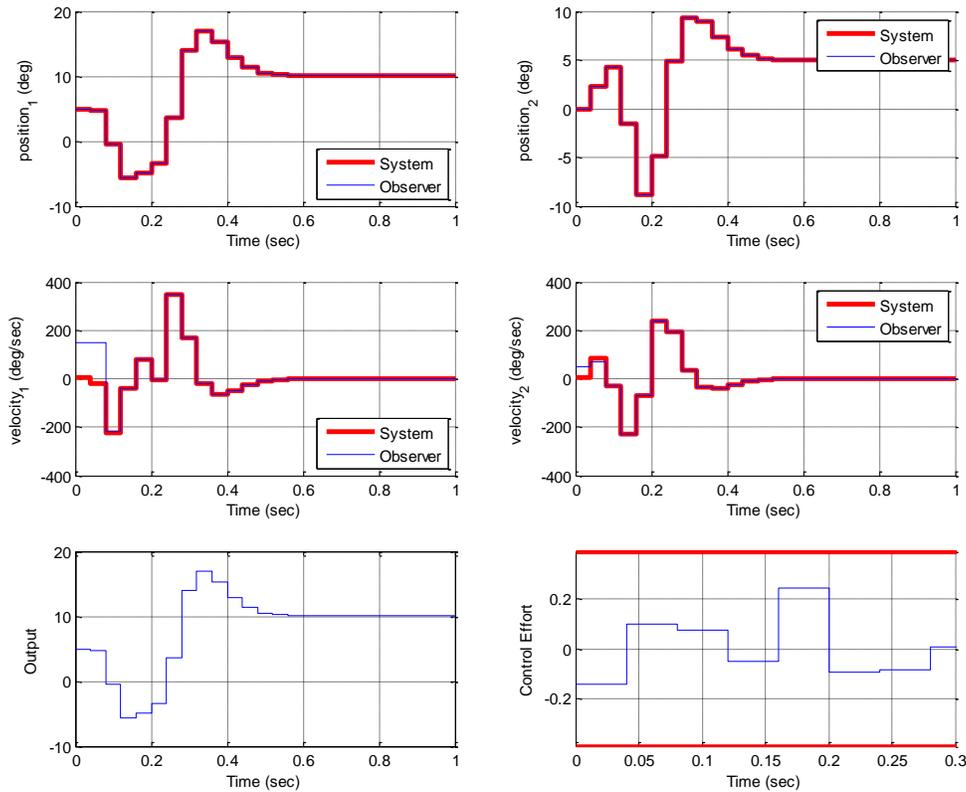

Figure 14. Results for problem 4e.
e) Same conditions as **d**, but the sampling interval is now 0.04. For a 10 degree step input you should get the graph shown in Figure 14. Turn in your plot